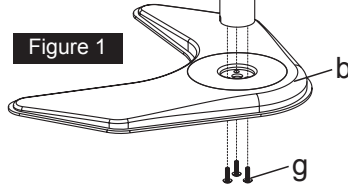

Figure 1
1. Install the Pole(a) to the Weighted Base(b) using 3pcs M5x14 Bolts(g), and tighten using the Allen Key(o), see Figure 1.